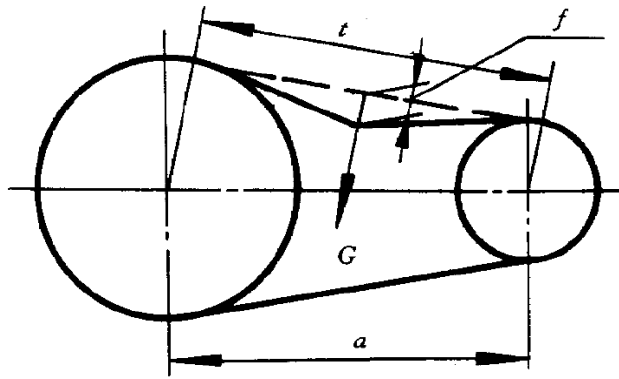

Figure 13-7 Timing belt installation deflection
- Adjust the position of the screw, adjust the timing belt to a suitable pretension and installation deflection (refer to Figure 13-7). The recommended pretension is 14.6N and the installation deflection is 2.6mm.